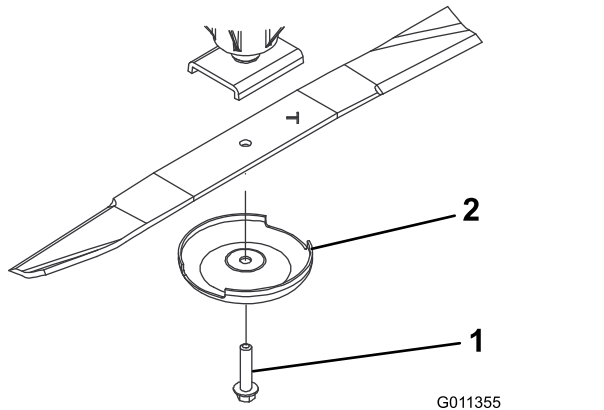

Figure 75
3. Remove the blade bolt, anti-scalp cup, and blade from the spindle shaft (Figure 75).